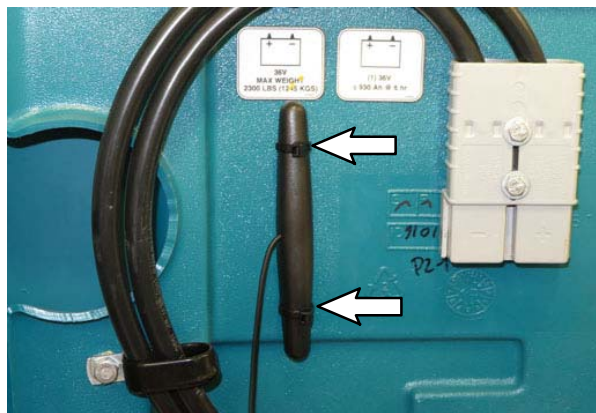

FIG. 20
22. Install two cable tie clips (17) / cable ties (18) into the 0.25 in. (6.35 mm) holes and use the cable tie clips / cable ties to secure the antenna (8) to the battery compartment cover. (Fig. 20)